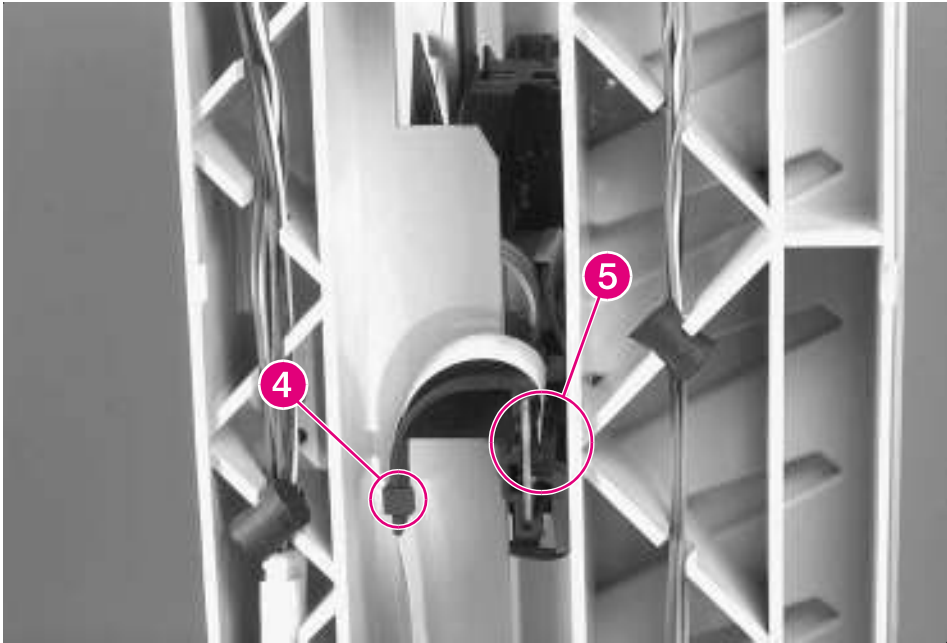

Figure 6-171 8-bin Mailbox Delivery Head Assembly (3 of 4)
- 6** On the back side of the 8-bin Mailbox, release the flat ribbon cable from the cable clip that secures the cable to the 8-bin Mailbox frame (Figure 6-171, callout 4), and gently disconnect the flat ribbon cable from the Delivery Head Assembly (callout 5).
- 5** Reconnect the flat ribbon cable to the Delivery Head Assembly, and secure the cable to the frame with the cable clip (Figure 6-171, callouts 4 and 5).